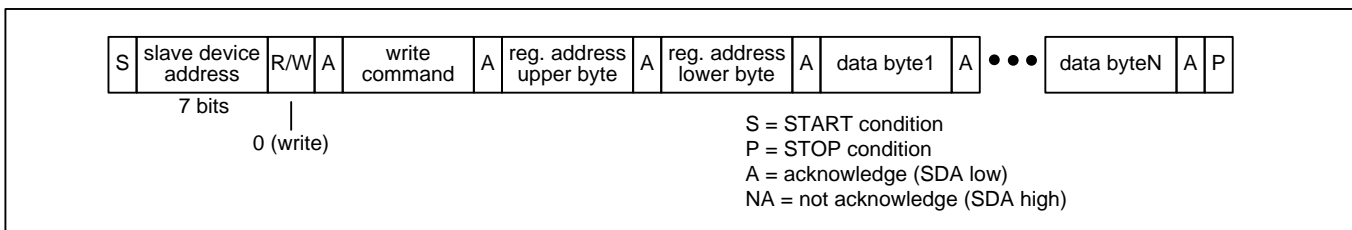

Figure 8 – I2C Register Write Transaction Functional Timing
**Register Write Transactions.** The device registers are accessible when  $EESEL=0$ . The bus master does an I2C write to the device. The first three bytes of this transaction are the SPI Write command (see Table 3), the upper byte of the register address, and the lower byte of the register address. Subsequent bytes are data bytes to be written. After each data byte is received, the device writes the byte to the write address and then increments the write address. The bus master terminates the write with a STOP condition (P). See Figure 8.